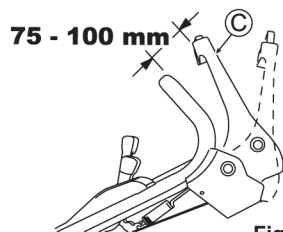

Fig. 24
Adjust so that the blade starts rotating when the distance between Blade lever (C) and the handle is 75 - 100 mm with the yellow button pressed as shown in Fig. 24.